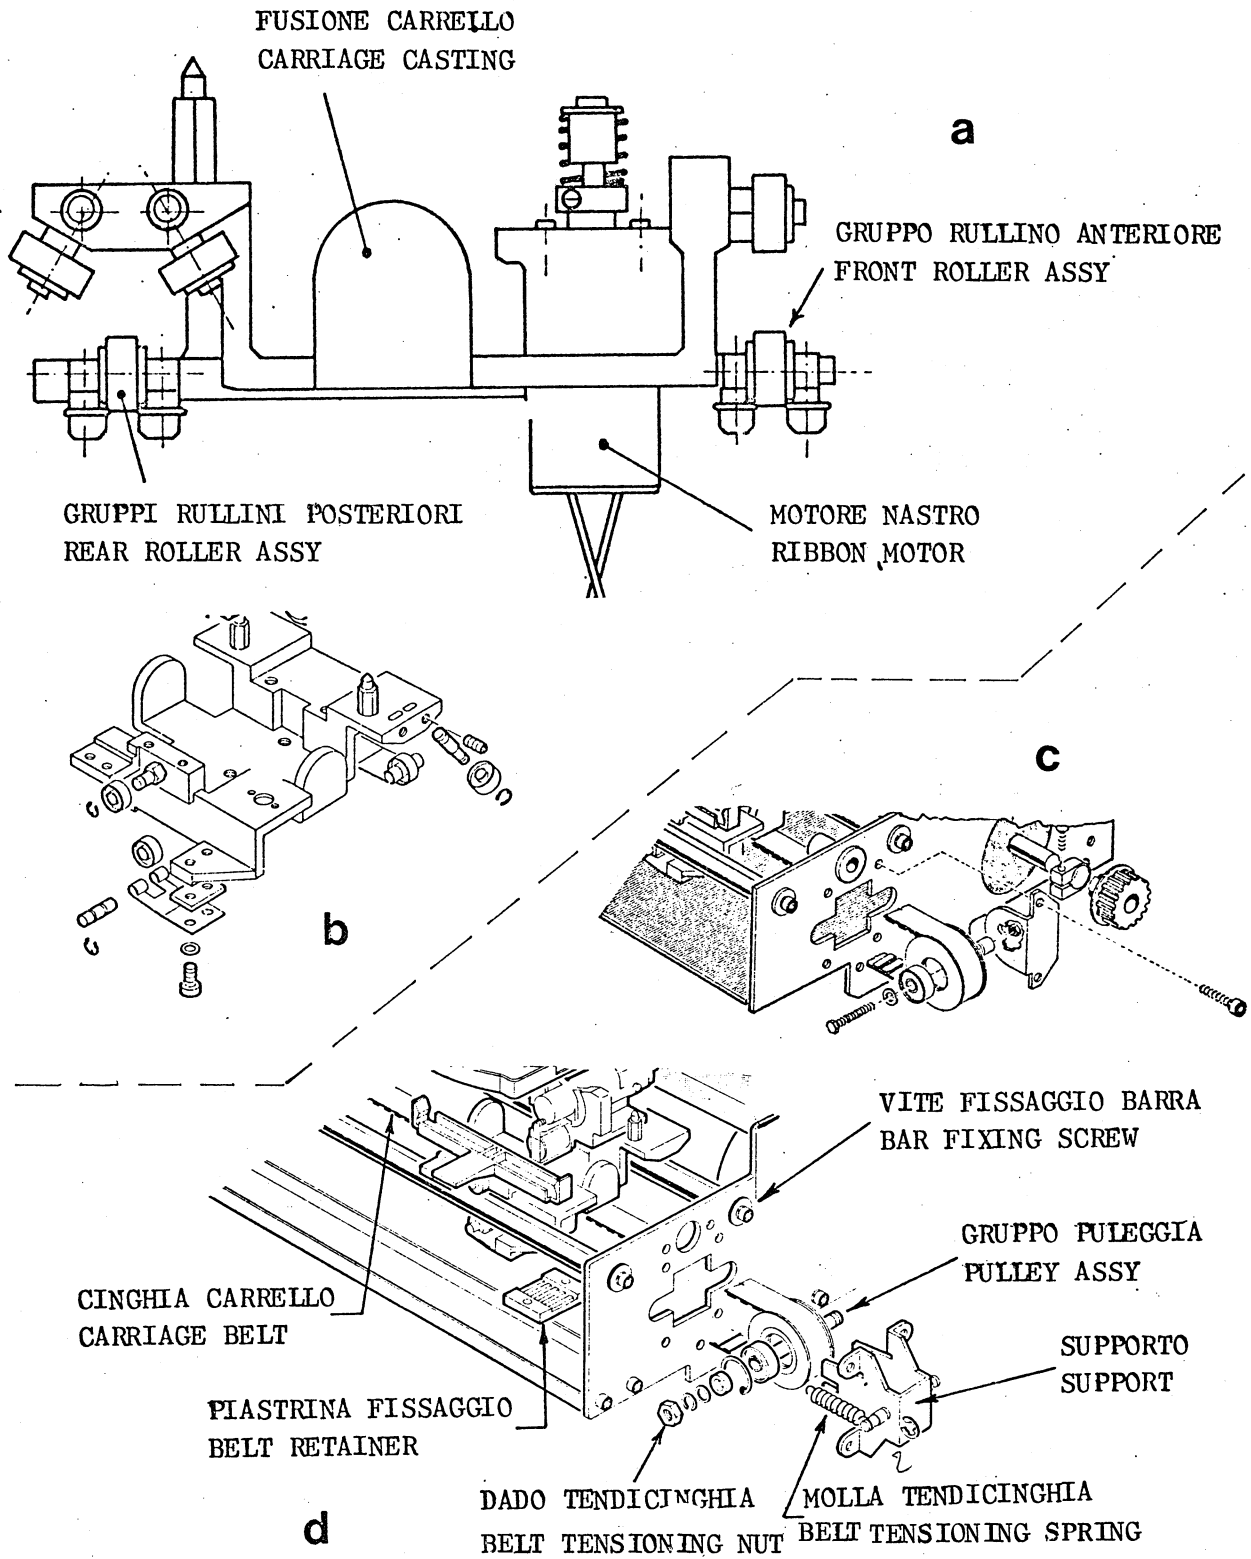

Fig. 8-32
The carriage comprises 3 roller assemblies, one on the front side and two on the rear side (see fig. 8.32). The front assembly can be directly replaced previous the removal of the top cover, because it is easily accessible from the front side of the unit. The following procedure must be applied for the two rear assemblies.
- . Loosen the belt tensioning nut in the right hand pulley support (Fig. 8.32 c/d)
- . Remove the allen screw which locks the internal bar to the right side (see fig. 8.32 d)